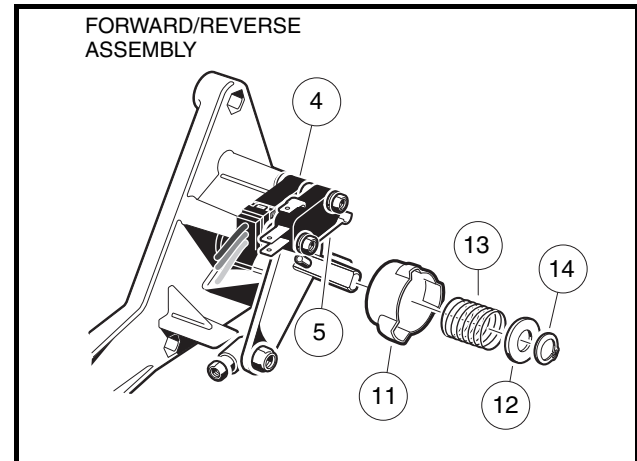

Figure 12-35 Lockout Cam
2. Remove the external snap ring (14) (**Figure 12-35, Page 12-28**).
3. Remove the plastic washer (12) and the spring (13).
4. Remove the cam (11).
1. Install the cam (11) (**Figure 12-35, Page 12-28**).
2. Install the spring (13) and the plastic washer (12).
3. Install the external snap ring (14) into the groove on the shaft. The lockout limit switch should be activated only when the Forward/Reverse handle is in the NEUTRAL position.